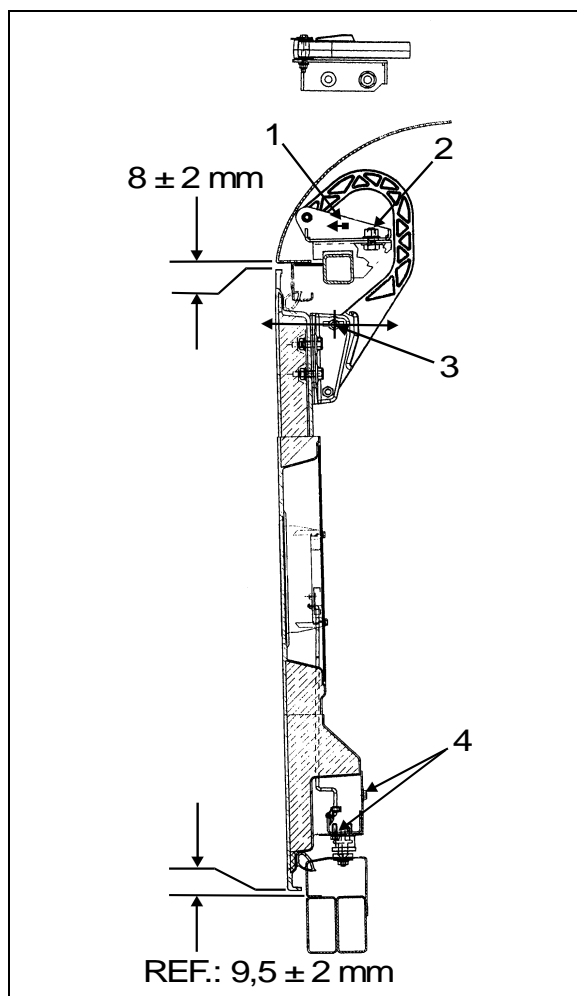

FIGURE 71: DOOR HINGE
1. Open the fuel filler door (1, Fig. 71).
2. Loosen the screws (3, Fig. 71) holding the panel to hinge (2, Fig. 71) assembly.